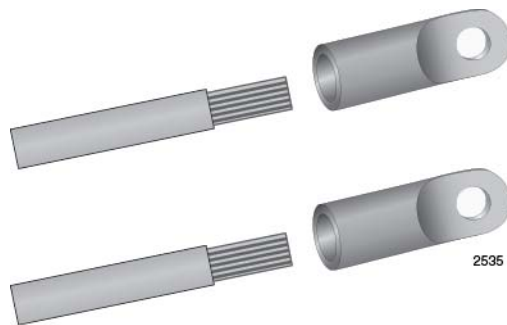

Figure 110. Attaching the Power Wires to the Straight Terminal Lugs
2. Insert the power wires into the terminals included with the power supply and use a crimping tool to secure the wires to the terminals. See Figure 110.